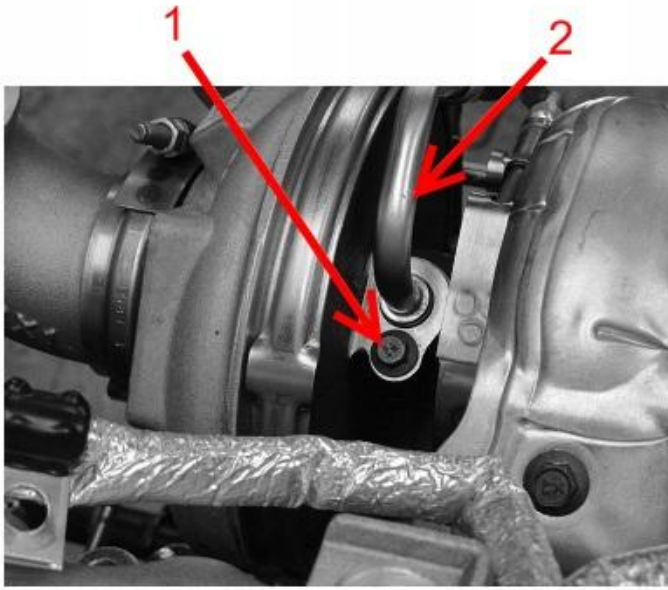

Figure 16: Turbo Oil Supply Tube
8. Connect oil supply tube (**Figure 16**, Item 2) to HP turbocharger.
9. Install oil supply tube (**Figure 16**, Item 2) and secure with new M6 X 16 bolt (**Figure 16**, Item 1).